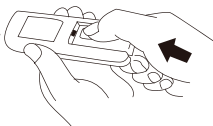

Fig. 3
- d) Risk of fire. Replace fuse with 2.5 A, 125 V fuse. (Fig. 3)